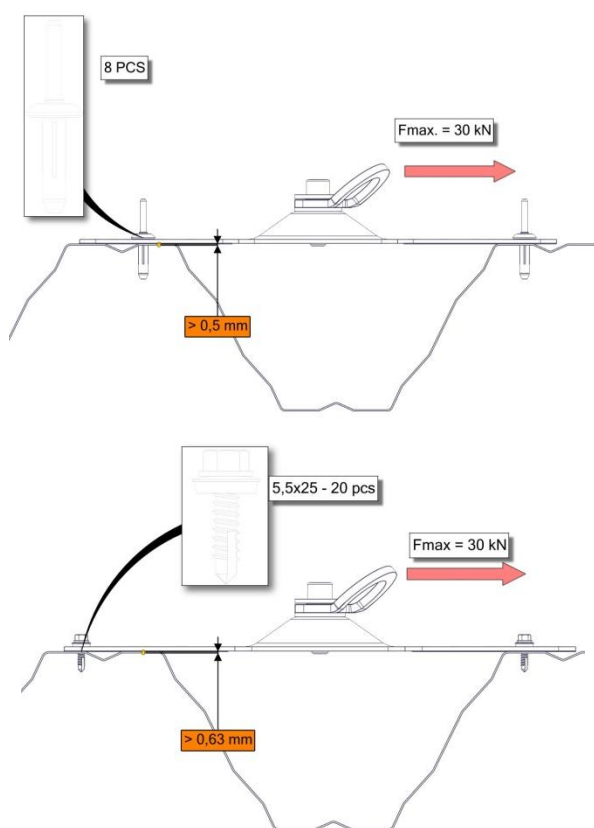

Figure 5. Selecting connection depending on sheet thickness
- According to thickness of trapezoidal sheet, select proper method of connection between post HLH700 and the sheet **Figure 5**